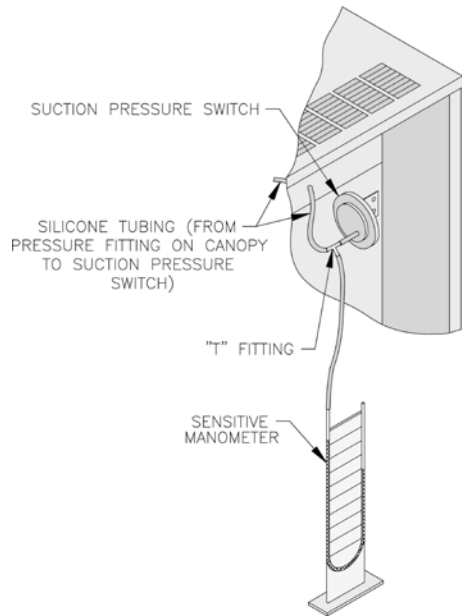

Figure 24: Inlet Fan Vacuum Measurement
H. Procedure for Measuring Fan Inlet Pressure (vacuum), See Figure 24.
4. Stop boiler, remove manometer and reconnect hose to pressure switch. See Figure 24.